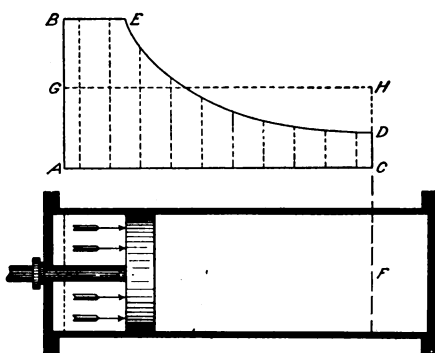
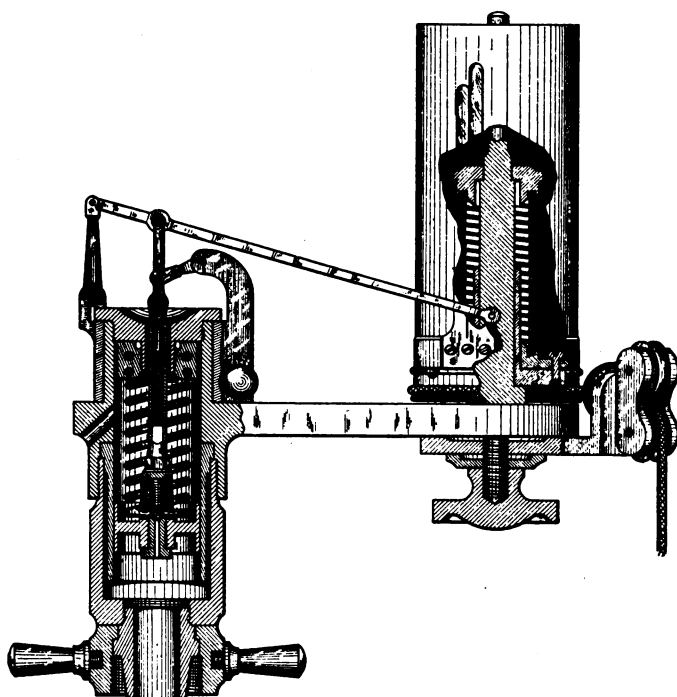
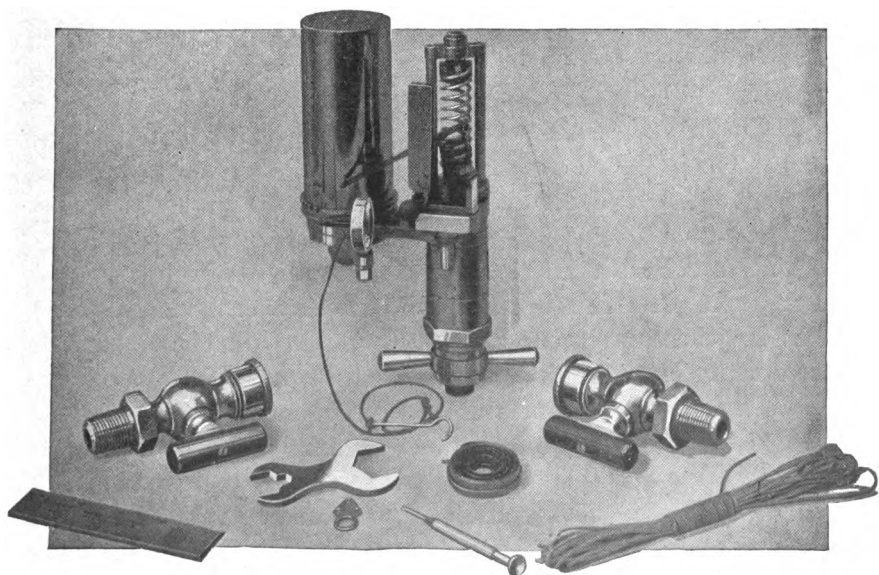

Fig. 49. Watt Ideal Diagram
Fig. 50. Crosby Indicator in Part Section
Fig. 52. Crosby Indicator with External Springs
*Watt's Diagram of Work.* James Watt was the first to see the need of accurate knowledge of the action of steam in the cylinder of a steam engine and to him belongs the credit of devising and using the first indicator. Fig. 49 illustrates the method adopted by Watt. The horizontal line  $AC$ , called the *abscissa*, represents the length of stroke and is divided into ten equal parts. The vertical line  $AB$ , called the *ordinate*, indicates the pressure of the steam.
Figs. 50 and 51 show an inside and an outside view of the Crosby indicator. In gas engine work, the spring located as shown in Fig. 49 is liable to be injured by heat. To lessen the difficulties due to this, most of the makers supply indicators with external springs, as shown in Fig. 52.